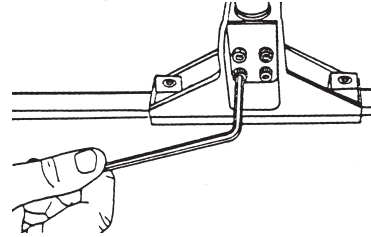

Figure 72
- e. Once aligned, tighten the Socket Screws with a 5/32" Allen Wrench, as shown in Figure 72. Repeat Step 12c to double check alignment. (It is very important to recheck the alignment!)